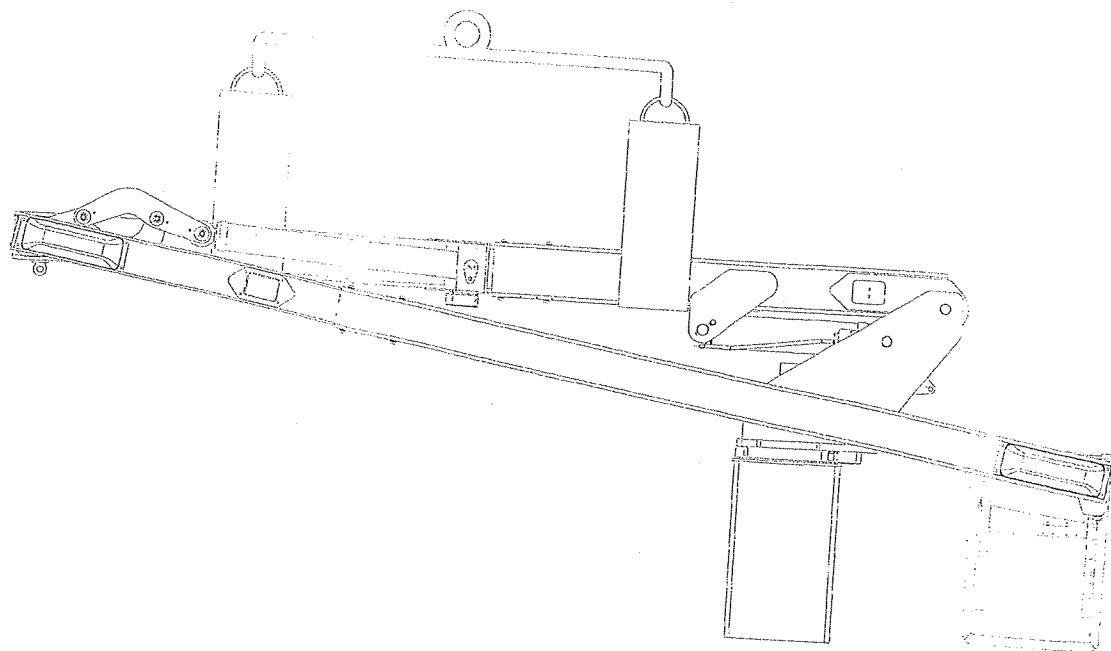

Figure 7.1 Lower boom cylinder
2. Use a hoist and sling to support the lower boom (refer to Fig. 7.1).